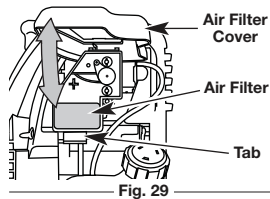

Fig. 29
NOTE: Use the bottle and spout saved from initial use to measure the correct amount of oil. The top of the label on the bottle measures approximately 3.04 ounces (90 ml) (Fig. 29). Check the level, See *Checking the Oil Level*. If the level is low, add a small amount of oil and recheck. Do not overfill (Fig. 24).
1. Open the air filter cover. Push the tab on the under side of the cover inward. Then pull the air filter cover out and up. (Fig. 29).
7. Reinstall the air filter cover. Position the slots on the top of the air filter cover onto the tabs at the top of the back plate (Fig. 29).
8. Swing the cover down until the tab on the air filter backplate snaps into place in the slot on the air filter cover (Fig. 29).